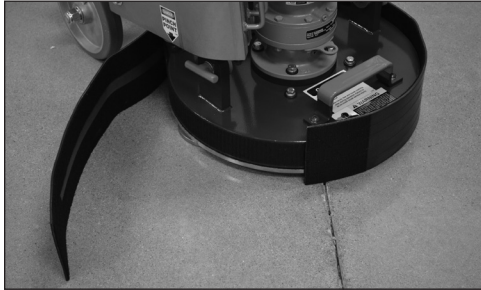

FIG. 1
1. Remove dust guard (Figure 1).